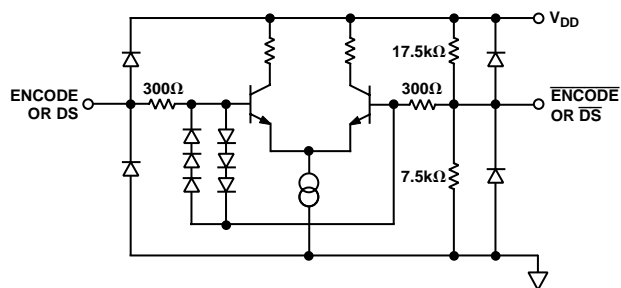

Figure 5. Equivalent ENCODE and Data Select Input Circuit
1Gain error and gain temperature coefficient are based on the ADC only (with a fixed +2.5 V external reference).23 dB bandwidth with full-power input signal.3tV and tPD are measured from the threshold crossing of the ENCODE input to valid TTL levels of the digital outputs. The output ac load during test is 5 pF (Refer to equivalent circuits Figures 5 and 6).4IIH and IIL are valid for differential input voltages of less than 1.5 V. At higher differential voltages, the input current will increase to a maximum of 1.5 mA.5Power dissipation is measured under the following conditions: analog input is -1 dBFS at 19.7 MHz.6Typical thermal impedance for the ST-44 (LQFP) 44-lead package (in still air):  $\theta_{JC} = 20^{\circ}\text{C/W}$ ,  $\theta_{CA} = 35^{\circ}\text{C/W}$ ,  $\theta_{JA} = 55^{\circ}\text{C/W}$ .7A change in input offset voltage with respect to a change in VDD.8SNR/harmonics based on an analog input voltage of -1.0 dBFS referenced to a 1.024 V full-scale input range.
ENCODE and Data Select (DS) can be driven differentially or single-ended. For single-ended operation, the complement inputs ( $\overline{\text{ENCODE}}$ ,  $\overline{\text{DS}}$ ) are internally biased to  $V_{DD}/3$  ( $\sim 1.5$  V) by a high impedance on-chip resistor divider (Figure 5), but they may be externally driven to establish an alternate threshold if desired. A  $0.1\ \mu\text{F}$  decoupling capacitor to ground is sufficient to maintain a threshold appropriate for TTL or CMOS logic.
Note the 6-diode clock input protection circuitry in Figure 5. This limits the differential input voltage to  $\sim \pm 2.1$  V. When the diodes turn on, current is limited by the  $300\ \Omega$  series resistor. Exceeding 2.1 V across the differential inputs will have no impact on the performance of the converter, but be aware of the clock signal distortion that may be produced by the nonlinear impedance at the converter.